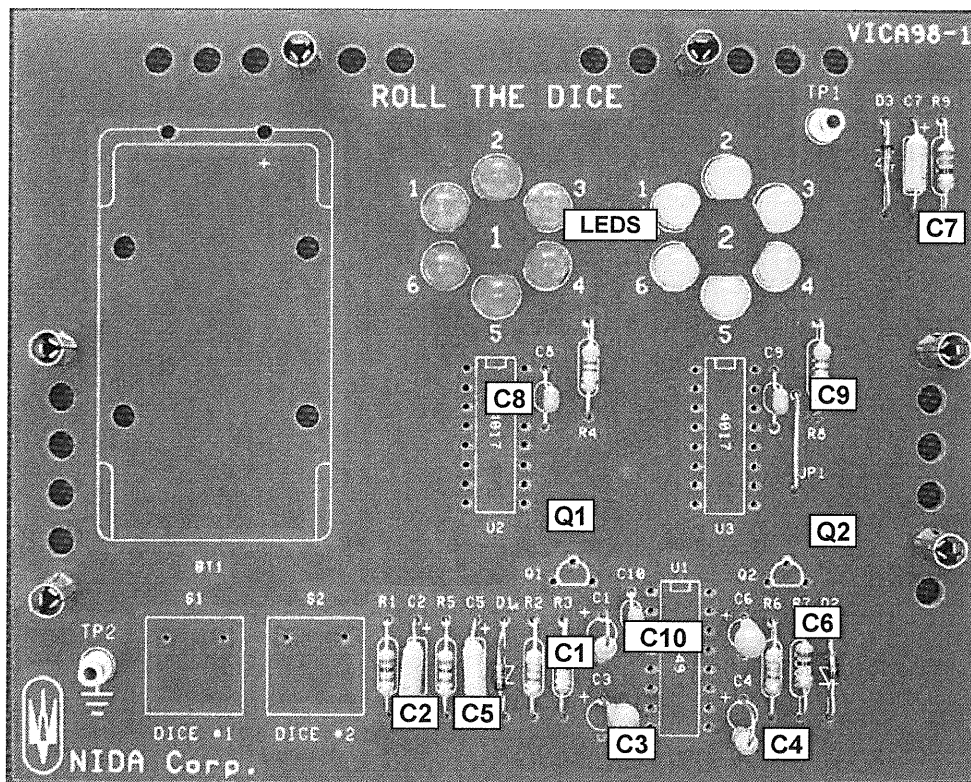

Figure 4
- a. Locate the necessary components from the parts kit, and solder the ten capacitors and the twelve LEDs to the printed circuit board. Capacitors should be installed with the label in a position so the value can be seen from the top of the circuit board if mounted horizontally or the left side of the circuit board if mounted vertically. Make sure to observe polarity as needed and trim the component leads to the proper length. Use Figure 4 for reference.